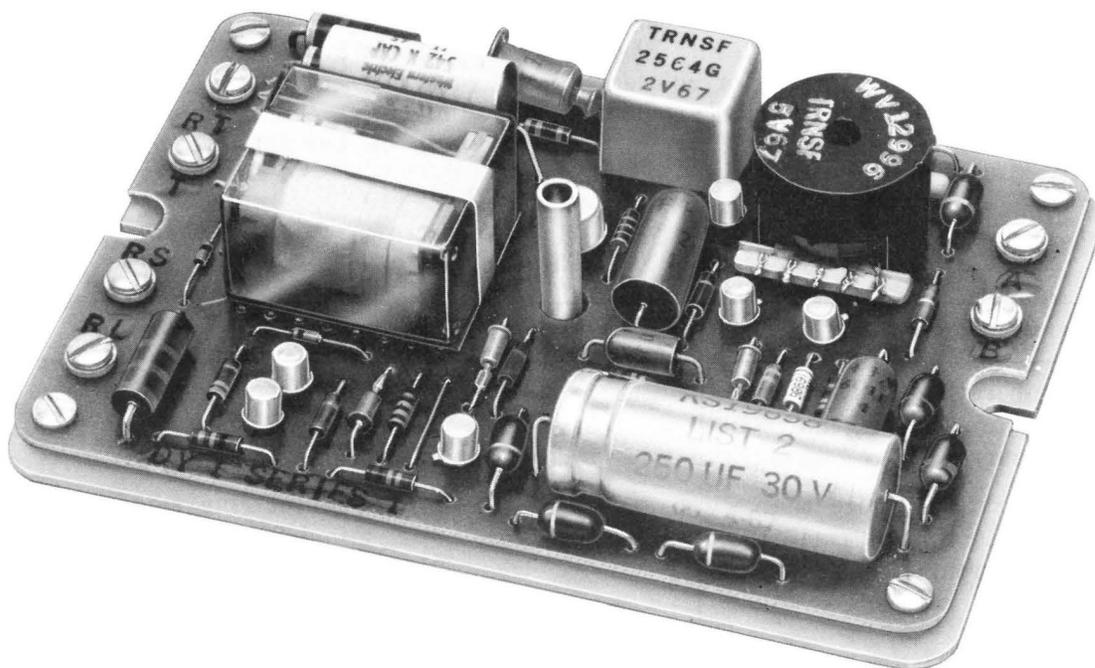

Fig. 4—Data Set 114A—Component Placement
3.07 Figure 4 shows the Data Set 114A with the covers removed to show the component placement. When a malfunction of the data set occurs, a visual inspection of the data set can be made to determine if physical damage to the data set has occurred. The set should be checked for loose or broken components or damage to the phenolic board.